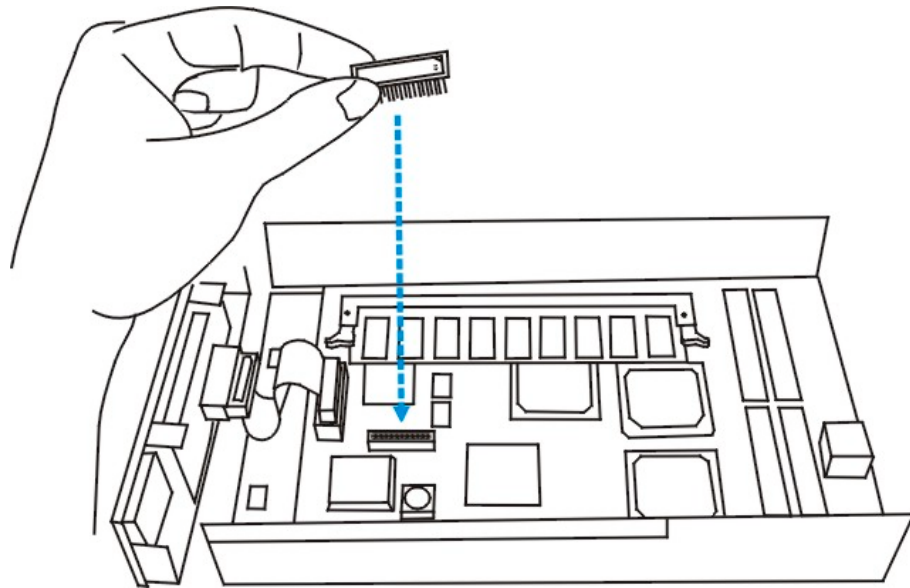

Figure 2-3: Remove the Battery Connector Cap
- Step 2.** *Remove the battery connector cap.* The connector that connects the BBU is covered with a cap that must be removed. Remove this cap by gently pulling it up. Put the cap in a safe place in case it needs to be replaced at a future time. (See *Figure 2-3*)